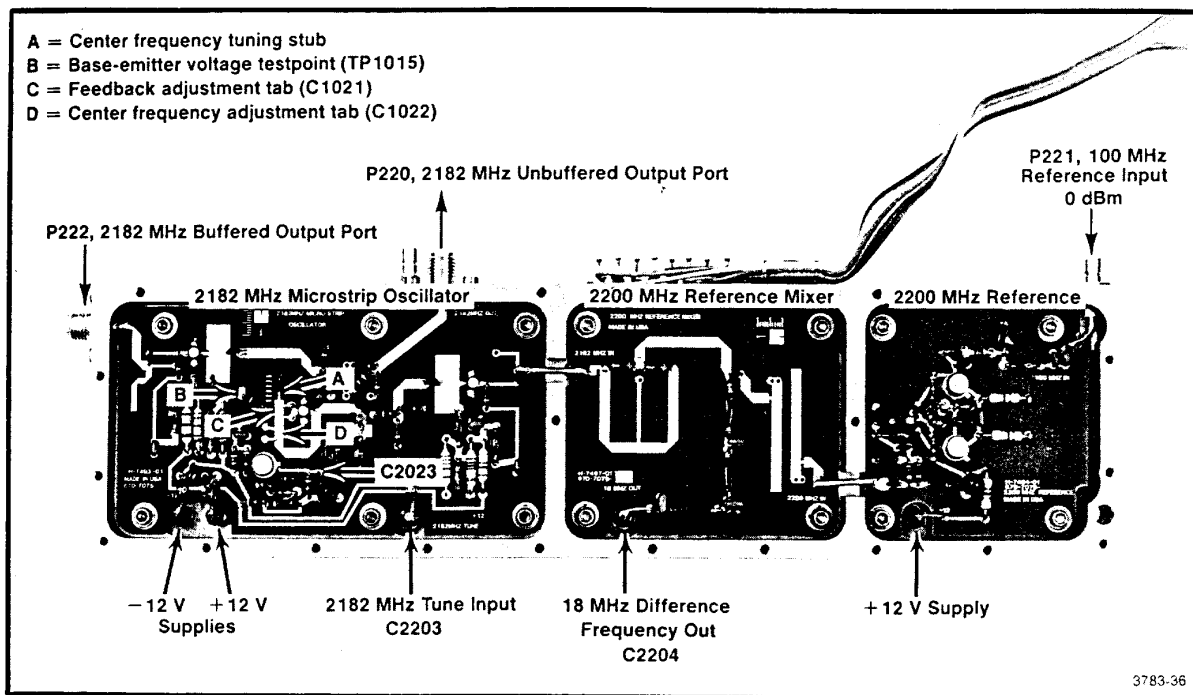

Fig. 4-19. Adjustments and test point locations within the oscillator section.
d. Install a 50  $\Omega$  terminator on the 2182 MHz buffered output port, P222, (see Fig. 4-19). Set the variable power supply to 0 V. Connect the plus (+) terminal to the 2nd LO housing and the negative (–) terminal to the exposed end of C2203 and L2031, through a 1 k $\Omega$  resistor.
## 2. Adjust and Check Oscillator Frequency (Refer to Fig. 4-19)